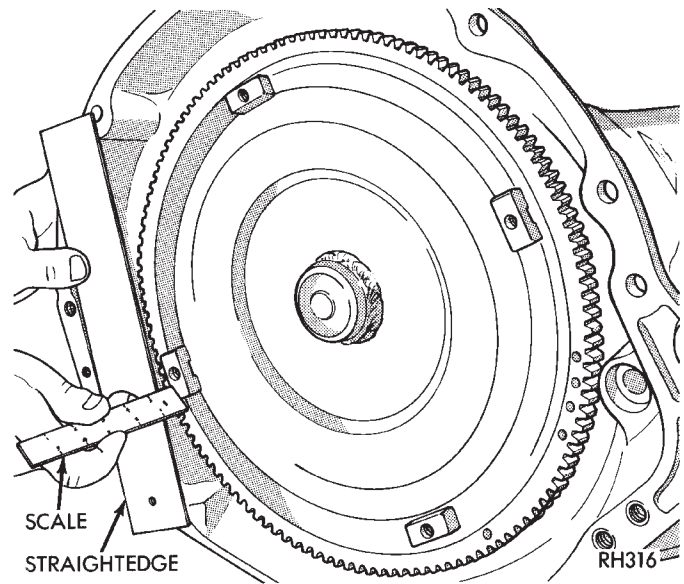

Fig. 22 Typical Method Of Checking Converter Seating
- (1) Check torque converter hub and hub drive notches for sharp edges burrs, scratches, or nicks. Polish the hub and notches with 320/400 grit paper and crocus cloth if necessary. The hub must be smooth to avoid damaging pump seal at installation.
- (2) Lubricate converter drive hub and oil pump seal lip with transmission fluid.
- (3) Lubricate converter pilot hub with transmission fluid.
- (4) Align converter and oil pump.
- (5) Carefully insert converter in oil pump. Then rotate converter back and forth until fully seated in pump gears.
- (6) Check converter seating with steel scale and straightedge (Fig. 22). Surface of converter lugs should be 1/2 in. to rear of straightedge when converter is fully seated.
- (7) Temporarily secure converter with C-clamp.